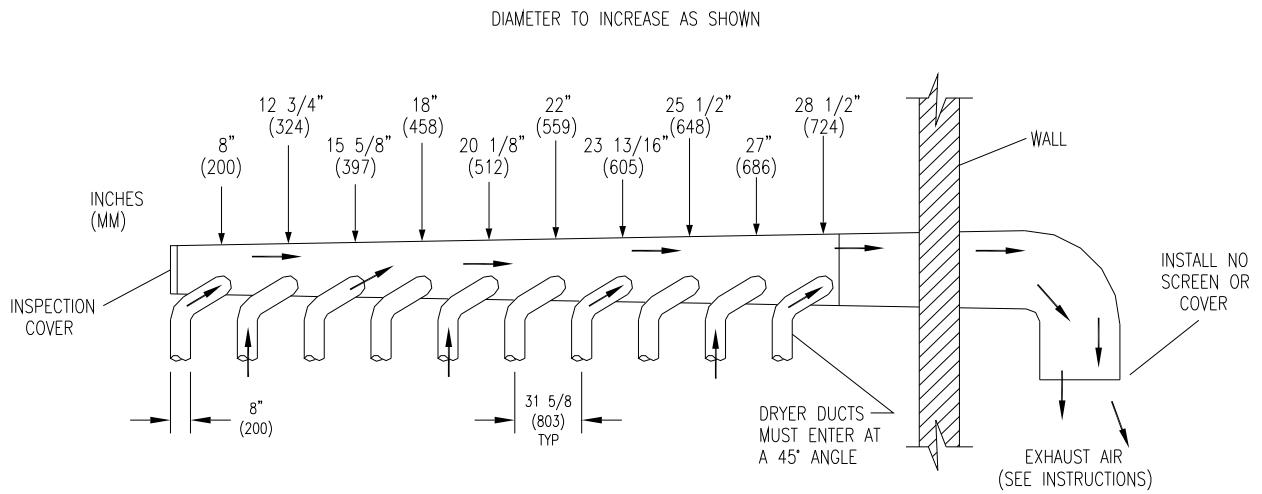

FIGURE 3- Dryer Exhausting Using A Main Discharge Duct.
**6. EXHAUST INSTALLATION.** (Refer to Figure 3 at the end of section 6.) Exhausting of the dryer(s) should be planned and constructed so that no air restrictions occur. Any restriction due to pipe size or type of installation can cause slow drying time, excessive heat, and lint in the room.
Installation of several dryers, where a main discharge duct is necessary, will need the following considerations for installation (see Figure 3). Individual 8 in. (200 mm) ducts from the dryers into the main discharge duct should be at a 45-degree angle in the direction of discharge airflow.
**NOTE:** Never install the individual 8" ducts at a right angle into the main discharge duct. The individual ducts from the dryers can enter at the sides or bottom of the main discharge duct. Figure 3 indicates the various round main duct diameters to use with the individual dryer ducts. The main duct can be rectangular or round, provided adequate airflow is maintained. For each individual dryer, the total exhausting (main discharge duct plus duct outlet from the dryer) should not exceed the equivalent of 14 ft (4.27m) and two elbows. The diameter of the main discharge duct at the last dryer must be maintained to exhaust end.